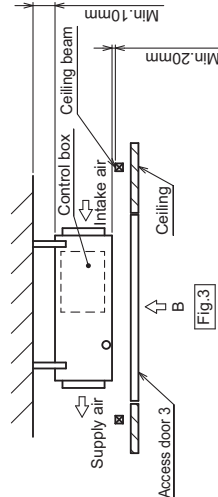

Fig.3
(2) When a space of less than 300mm is available below the unit between the unit and the ceiling.
- (At least 20mm of space should be left below the unit as shown in Fig.3.)